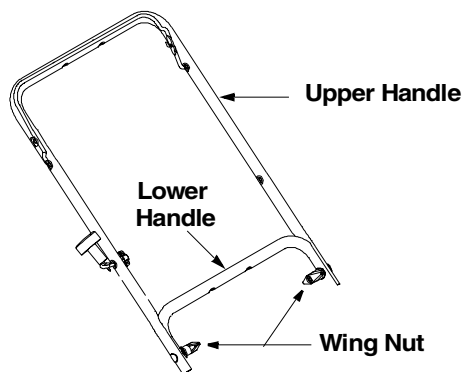

Figure 2
- Tighten the two wing nuts on two sides to secure the upper handle to the lower handle (carriage bolts must be seated properly into the handle). See Figure 2 for location of wing nuts.